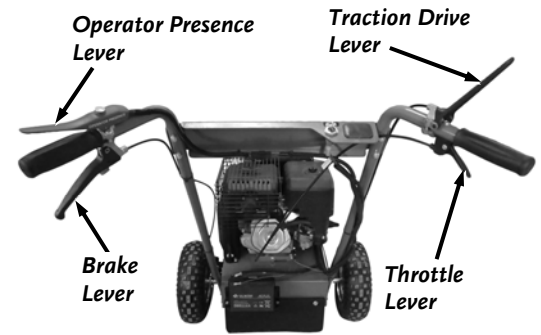

Figure 25
Familiarize yourself with all of the Control Levers and their functions before operating the PRO XL-SP STUMP GRINDER (**Figure 25**).
1. Slowly release the Throttle Control Lever to the idle position (**Figure 25**).